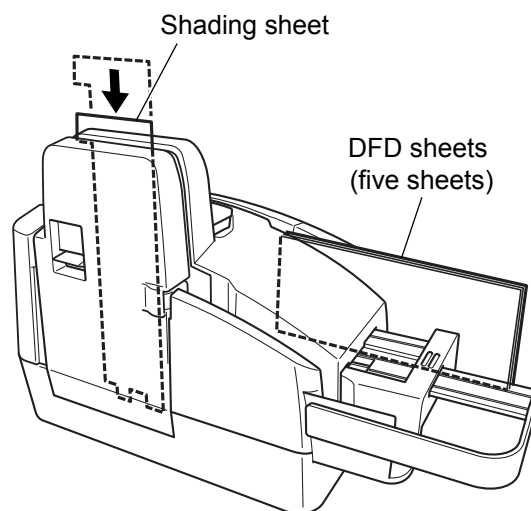

Figure 5-204
- 2) Insert the shading sheet (service tool: TKM-0341) from the top into the image reading section. Do not leave a tilt or floating. Refer to figure 5-204 and 5-205.